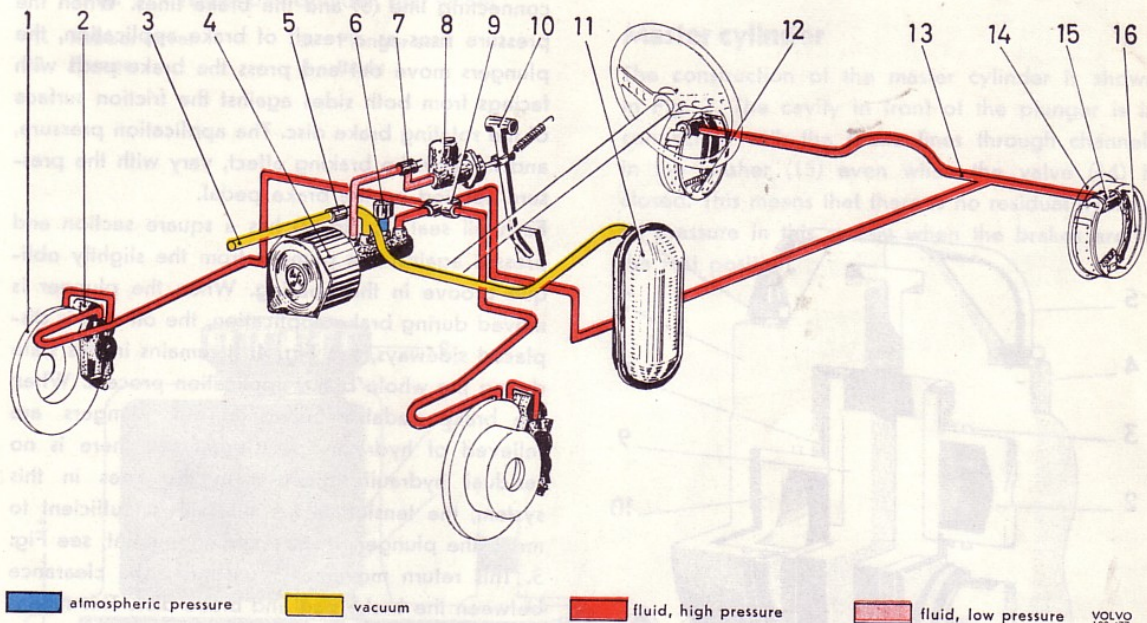

Fig. 1. Footbrakes system.
Fig. 1 shows the general arrangement of the footbrake system, in this case as on the early production P 1800. On late production, the vacuum tank (11)
The front wheel brakes are of the disc type. The discs (1, Fig. 1) are made of steel and are attached to the wheel hubs with which they rotate. Protecting plates prevent the discs from getting dirty.